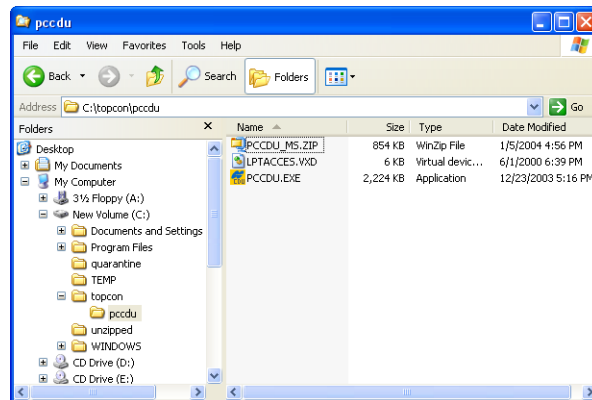

Figure 2-1. Extract Program and Create Shortcut
3. Extract the PCCDU.EXE and associated \*.dll file to the PC-CDU folder (Figure 2-1).
4. Create a shortcut on the computer's desktop for quick access to PC-CDU (Figure 2-1).